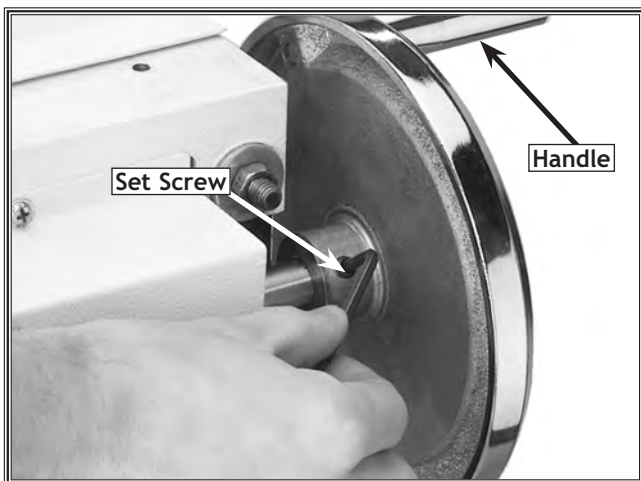

Figure 15. The crank and handle installed.
3. Thread the 5/16"-18 x 1/2" set screw into the crank to secure the handwheel to the shaft. See **Figure 15**.